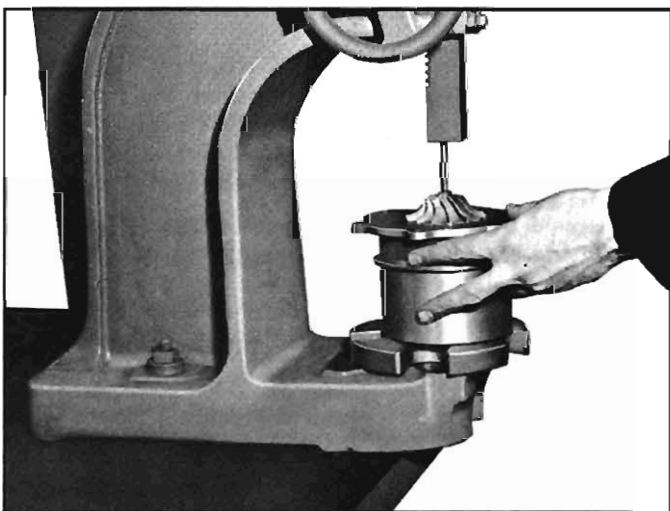

Fig. 43—Pressing Turbine Shaft from Impeller
3. Support the supercharger in a press (using parallel blocks or support ring Tool J-21004, Figure 43) with the impeller wheel upward.
5. Place a 1/4" diameter brass rod on the end of the turbine shaft (fig. 43) and press turbine shaft from impeller wheel.